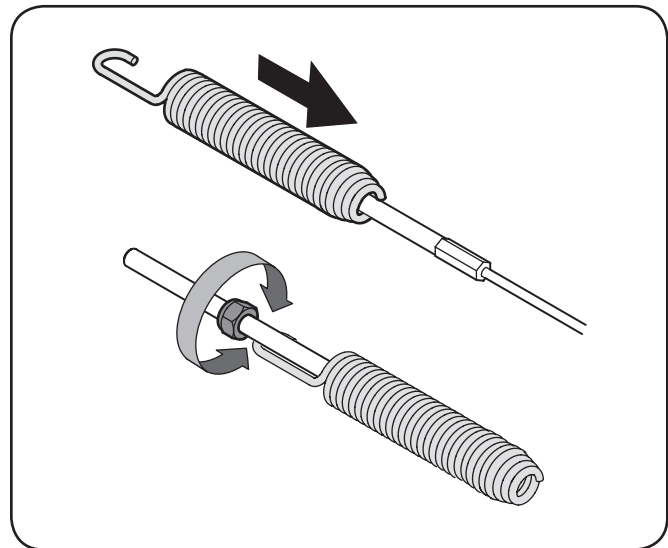

Figure 3-12
2. Slide the spring up the cable to expose the cable coupler threads and lock nut. Refer to Figure 3-12.